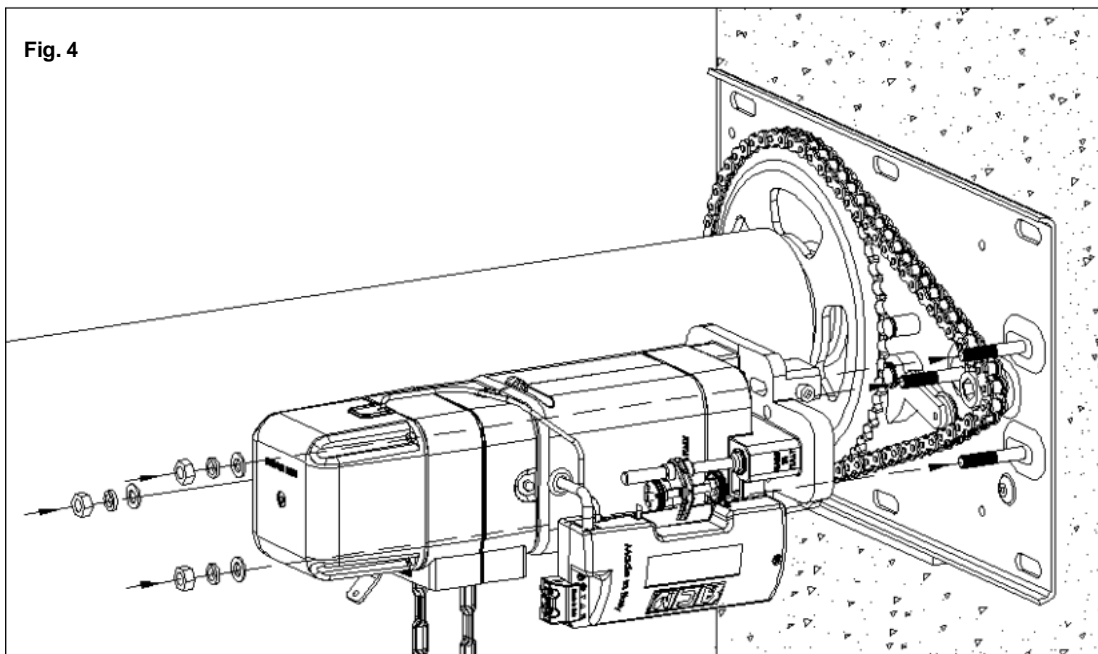
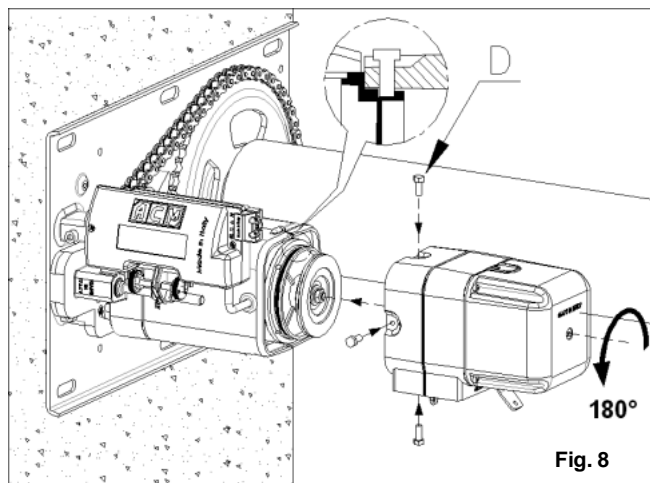

Fig. 4
Fig. 8
Il motoriduttore fornito è configurato per un'installazione a destra della serranda vista dall'interno. Il sistema è comunque predisposto per essere installato sia a destra che a sinistra come mostrato in figura 8 e 9. Dopo aver fissato l'asse di avvolgimento, procedere al montaggio del motoriduttore sulla staffa di trasmissione facendo combaciare i tre perni con le rispettive sedi del riduttore (vedi fig.4). A questo punto spingere il motore a battuta sulla staffa, facendo incastrare l'albero esagonale di trascinamento nella sede del pignone dentato. Serrare il motoriduttore mediante i tre dadi M10.
The gearmotor provided is configured for installation to the right of the shutter seen from inside. However the system is arranged to be installed on both right and left as shown in Fig. 8 and 9. After fixing the winding shaft, assemble the motor on the bracket transmission by matching the three pins with the respective locations of the gear unit (see Figure 4). At this point push the stop bracket on the engine, fitting the trap hex drive shaft in the seat of the toothed pinion. Tighten the gear motor using the three M10 nuts.
EN - For the configuration on the left of the gear motor, proceed as follows: Unscrew the 4 screws (D) shown in Figure 8 to release the electric brake assembly. Rotate the brake assembly 180° rotation in such a way that the chain, used for the manual operation, is facing perpendicularly downward. At this point push the brake assembly to overcome the resistance of the internal spring and proceed to tighten the 4 screws that were previously loosened. **Caution:** verify that the 4 screws fit properly into the groove of the electric motor as shown in the Figure 8 detail. This operation is essential for the proper functioning of the electric brake assembly.